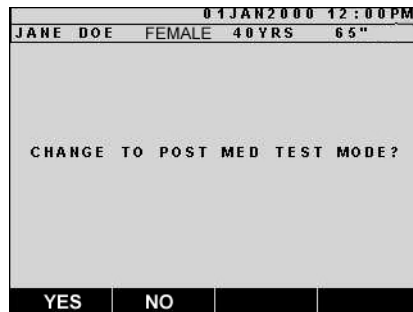

Figure 26: Change to Post-Med Test Mode
1. From the "PRE MED TEST" screen press the *POST* soft key. The "CHANGE TO POST-MED TEST MODE?" message (Figure 26) appears.